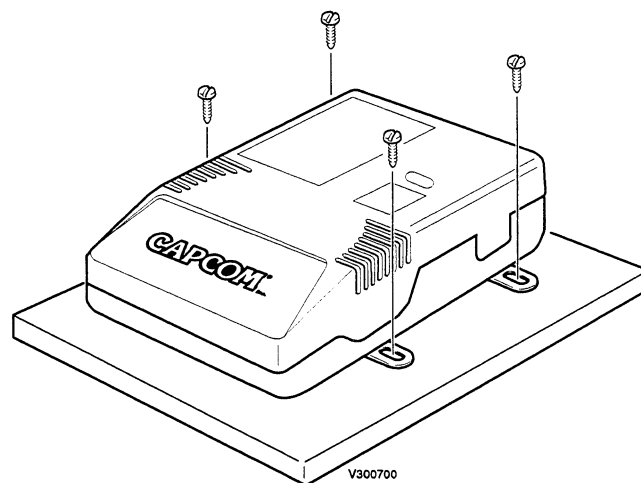

Figure 11: Case Mounting
25. Using the supplied wood screws, fasten the game cartridge case to the control panel shelf, as shown in Figure 11.